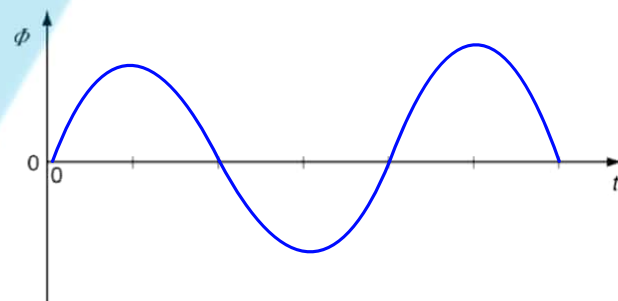

Fig. 6.3
- (i) Complete Fig. 6.3 to show the variation with time  $t$  of the magnetic flux  $\Phi$  in the core. [1]